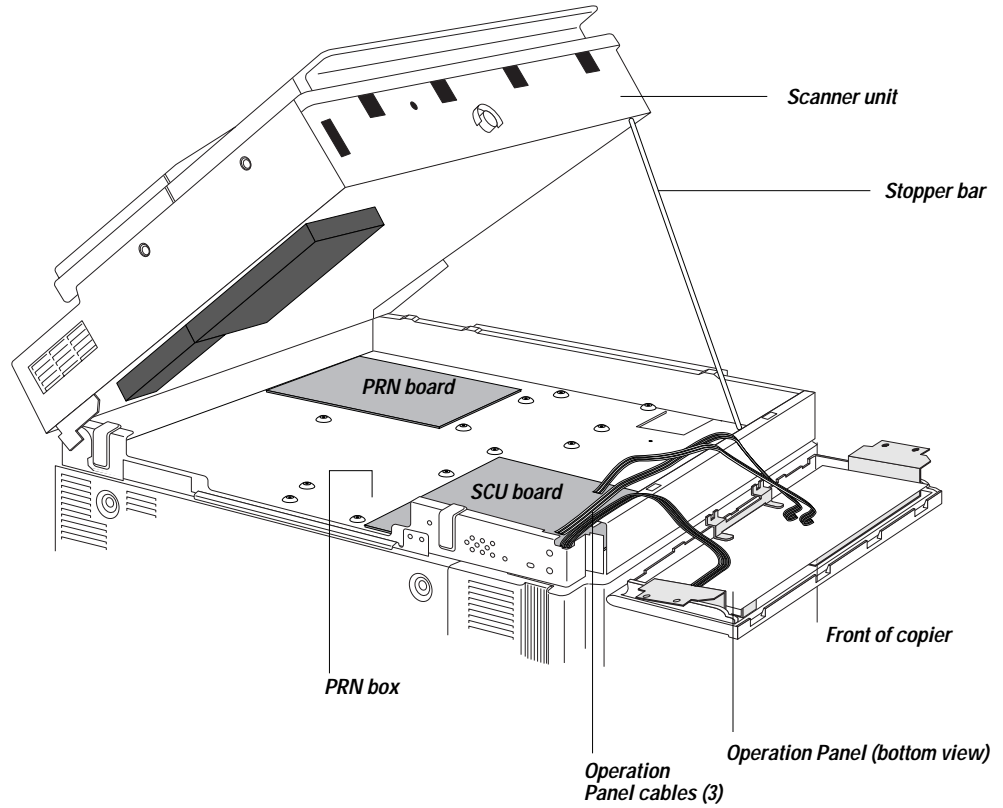

Figure 3-4 Accessing the A189 PRN box
6. *Lift the scanner unit and prop it up with the stopper bar (see Figure 3-4).*